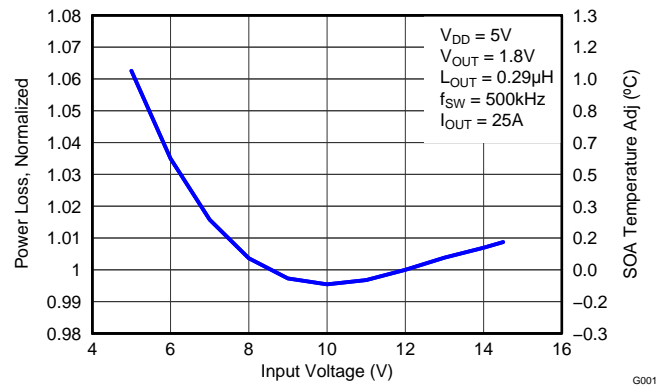

Figure 8. Normalized Power Loss vs Input Voltage
- Normalized Power Loss for input voltage \approx 1.02 (Figure 8)
- SOA adjustment for input voltage \approx 0.3 $^{\circ}$ C (Figure 8)